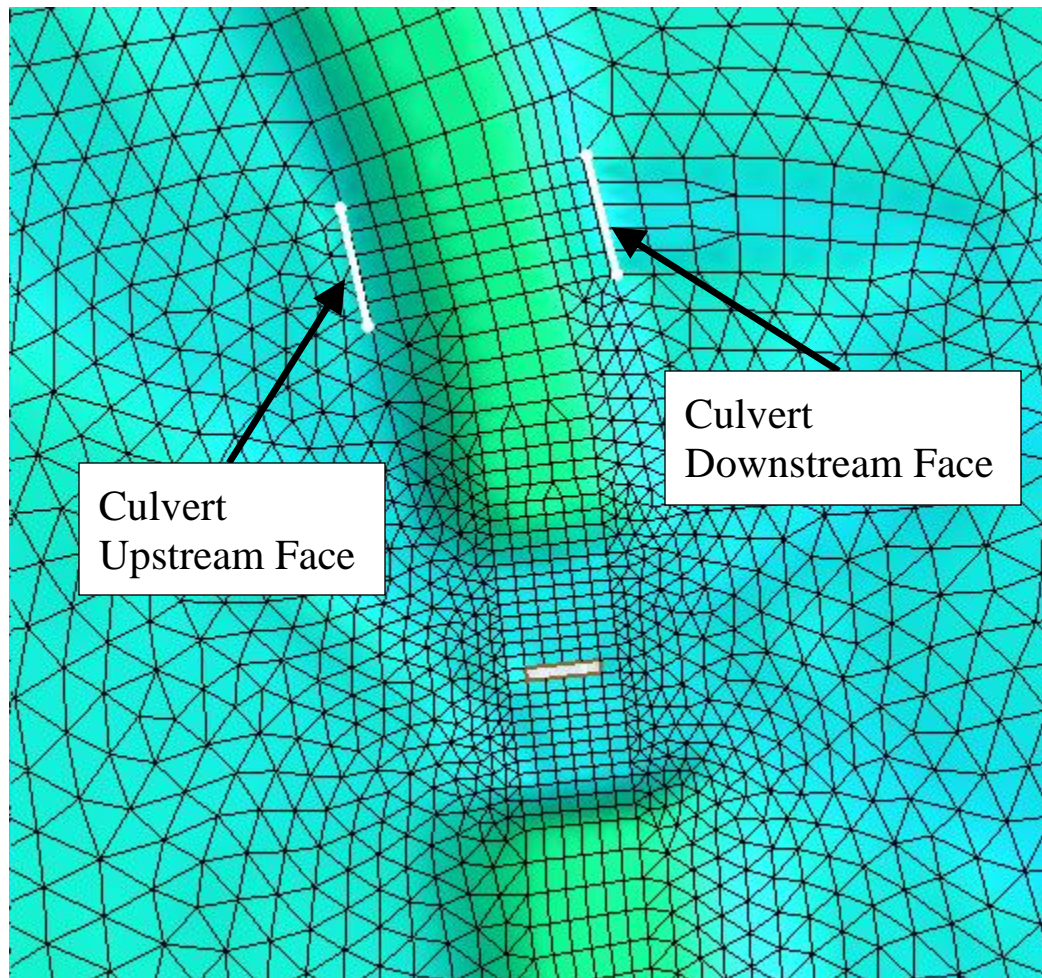

Figure 3 Upstream and Downstream BC Culvert Arcs
7. Use the **Create Feature Arc**  tool to create two arcs, one on each side of the road. These arcs will define the upstream and downstream faces of the culvert structure. The created arcs should be placed in the locations shown in Figure 3.